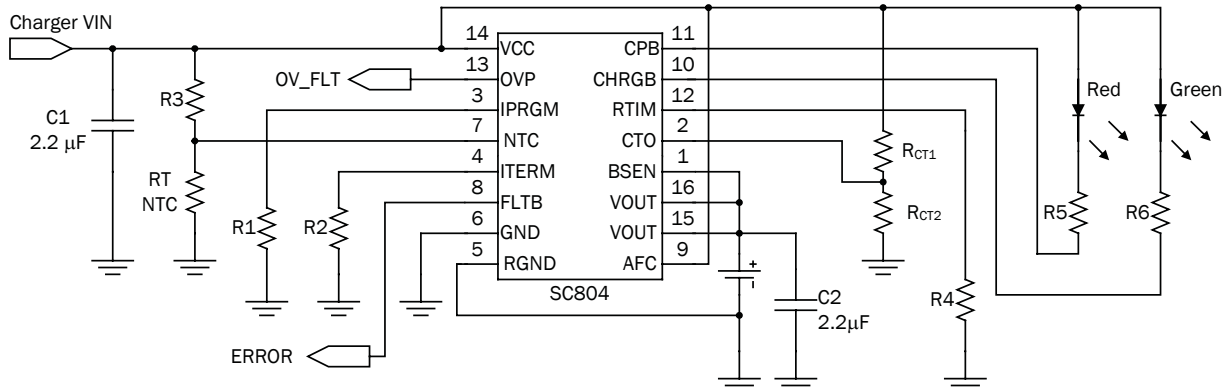

Figure 2 - Application Circuit with AFC Disabled, and with NTC and CTO Resistor Networks
This feature is especially useful if a single PCB design is needed to satisfy similar applications with different requirements. The temperature range for normal charging can be adjusted by adjusting resistor values on a divider network without changing the NTC thermistor, which is often enclosed in the battery pack. An example of a typical application is shown in Figure 2.
The following example assumes the NTC network configuration of Figure 2, with a fixed resistor R3 connected between NTC and VCC, and a battery NTC thermistor RT connected between NTC and ground. The battery temperature range over which charging is permitted is specified to be 0°C through 40°C. The datasheet for the selected NTC thermistor indicates that $R_T = 5.839k\Omega$ at 40°C, at $R_T = 26.49k\Omega$ at 0°C, with a dissipation constant $DC = 3mW$. Designate $R_{HOT} = 5.839k\Omega$ and $R_{COLD} = 26.49k\Omega$.
Step 4: *Configure CTO.* If NTC_{COLD} is sufficiently close to the default cold threshold ($V_{T_{NTCC}} \times V_{VCC}$), then simply connect CTO to ground, disabling the CTO function, to complete the design. But in this example it is not, so the voltage on CTO must be set to $0.6591 \times V_{VCC}$. The simple resistive voltage divider network of Figure 2 can be used to obtain the desired CTO voltage.